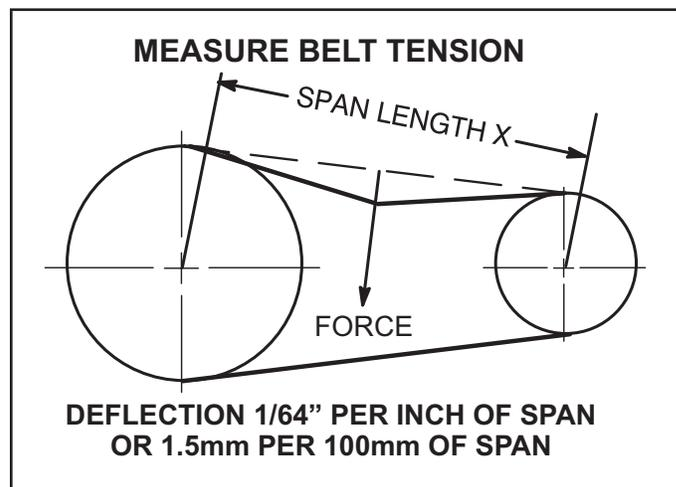

FIGURE 14
- 1 - Measure span length X. See FIGURE 14.
- 2 - Apply perpendicular force to center of span (X) with enough pressure to deflect belt  $1/64$ " for every inch of span length or 1.5mm per 100mm of span length.